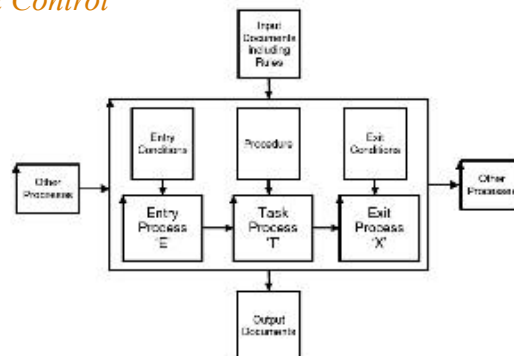

Figure 1.4
- An example of such a process could be #Requirement Specification.\$ <- CE, figure 1.4!